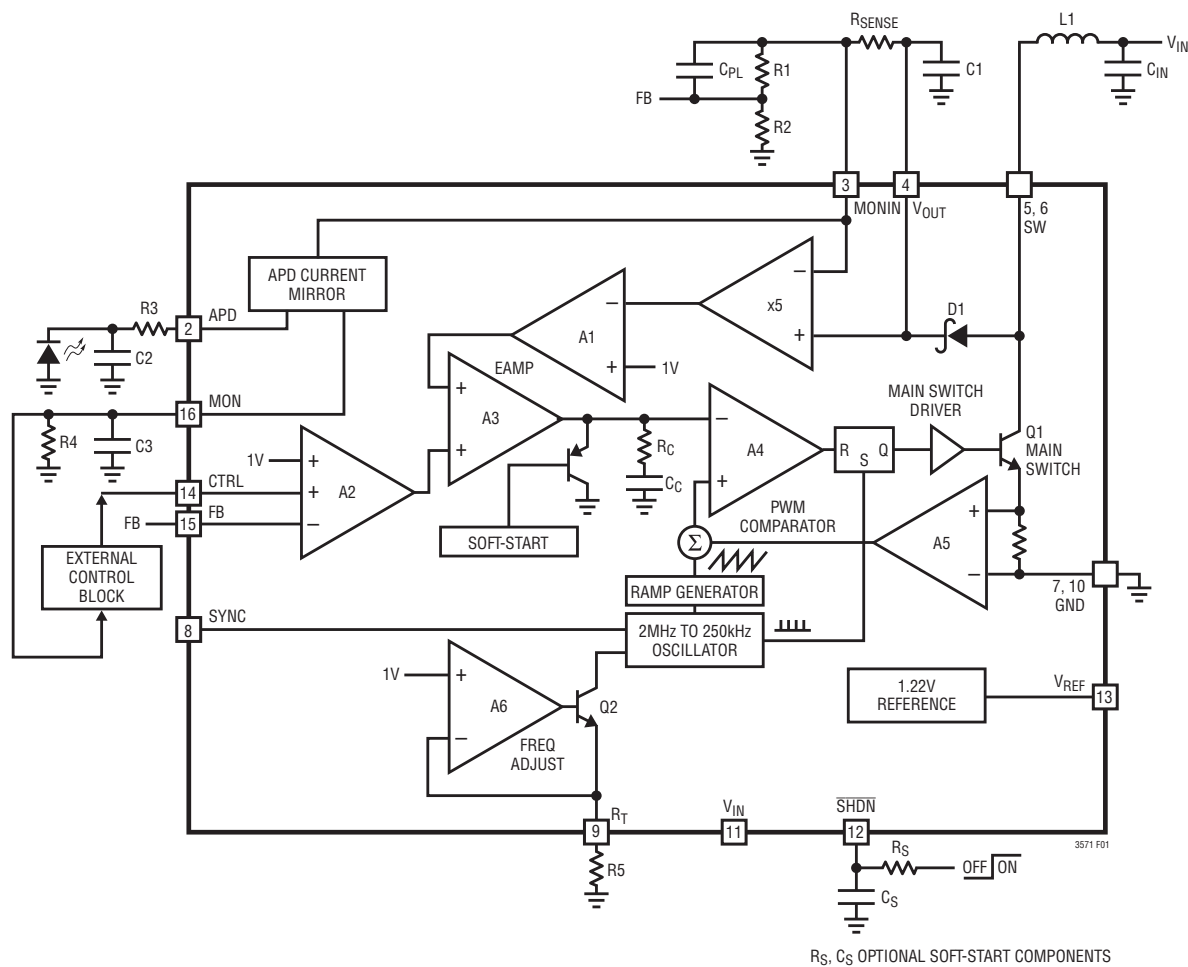

Figure 1. Block Diagram
**$\overline{\text{SHDN}}$  (Pin 12):** Shutdown Pin. Tie to 1.5V or higher to enable device; 0.4V or less to disable device. Also functions as soft-start. Use RC filter as shown in Figure 1.
The LT3571 boost converter uses a constant-frequency current mode control scheme to provide excellent line and load regulation. Operation can be best understood by referring to the Block Diagram in Figure 1. At the start of each oscillator cycle, the SR latch is set, which turns on the Q1 power switch. A voltage proportional to the switch current is added to a stabilizing ramp and the resulting sum is fed into the positive terminal of the PWM comparator, A4. When this voltage exceeds the level at the negative input of A4, the SR latch is reset, turning off the power switch. The level at the negative input of A4 is set by the error amplifier A3. A3 has two inputs, one from the voltage feedback loop and the other one from the current loop. Whichever feedback input is lower takes precedence and forces the converter into either constant-current or constant-voltage mode. The LT3571 is designed to transition cleanly between these two modes of operation. The current sense amplifier senses the voltage across  $R_{SENSE}$  and provides a pre-gain to amplifier A1. The output of A1 is simply an amplified version of the difference between the voltage across  $R_{SENSE}$  and 200mV.
The power supply switching noise associated with a switching power supply can interfere with the photodiode DC measurement. To suppress this noise, a 0.1 $\mu$ F capacitor is recommended at the APD pin. An additional series resistor is necessary to ensure enough high frequency compensation at the APD pin over the full operating range of the LT3571, as shown in Figure 1. An additional output lowpass filter, a 10k resistor and a 10nF capacitor in parallel at MON pin can further reduce the power supply noise, and other wide band noise, which might limit the measurement accuracy of low current levels.